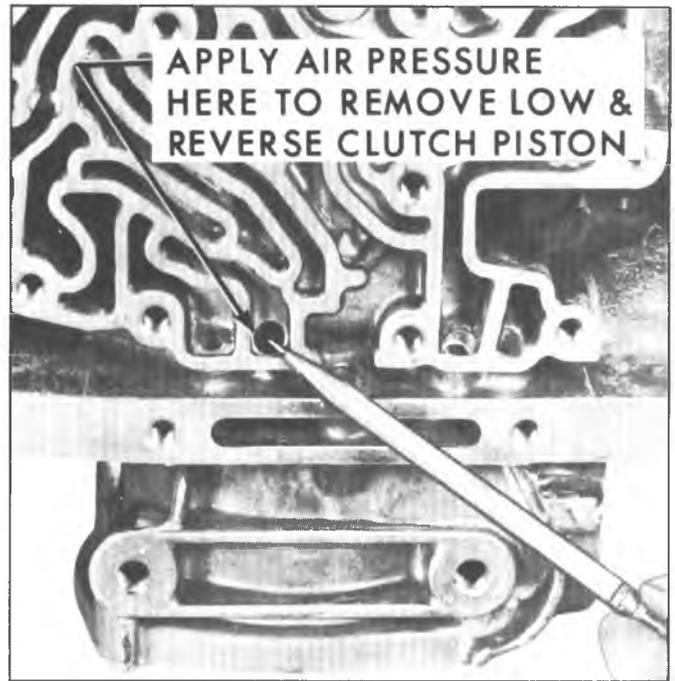

Fig. 47M-Removing Low and Reverse Clutch Piston
- 23. Remove low and reverse clutch piston assembly by applying compressed air in passage shown on Figure 47M.